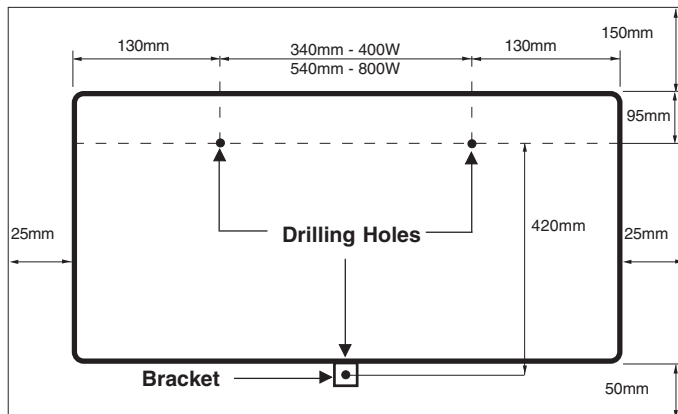

Fig. 2
## Wall Mounted Operation (see Fig. 2)
2. Position the drilling template provided on the wall ensuring it is level. Mark the position of the relevant holes on the wall at the edge of template. Before drilling check that the distance between the hole centres is correct, 340mm for 400W Models and 540mm for 800W models (see Fig. 2).